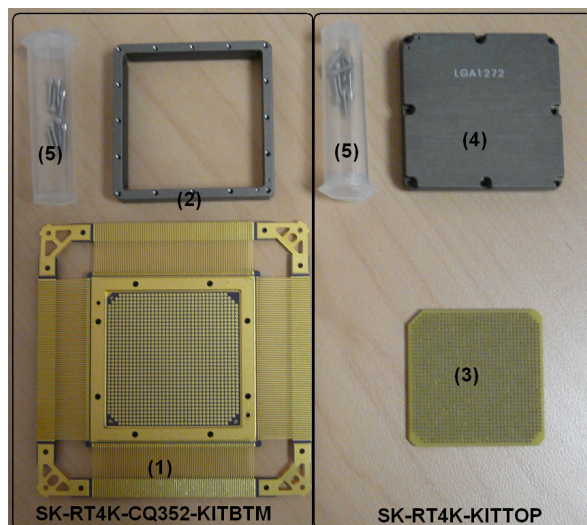

Figure 1 • Parts of CQ352 to LG1272 Adapter Socket: (1) Ceramic Adapter, (2) Socket Housing, (3) Socket Interposer, (4) Socket Lid, (5) Fixing Screws
Figure 1 shows the complete CQ352 to LG1272 assembly kit. SK-RT4K-KITTOP contains an interposer (3), a socket lid (4), and eight screws (5). SK-RT4K-CQ352-KITBTM contains a ceramic adapter (1), which is a unique adapter for RTAX4000S/SL, socket housing (2), and eight screws (5).